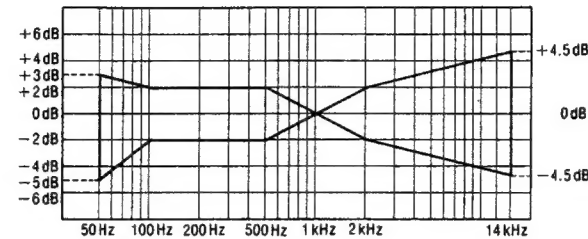

Fig.9
8. Assure that the level is within the range shown in Fig.9.